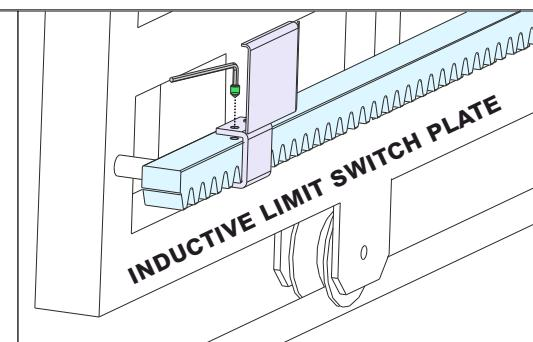
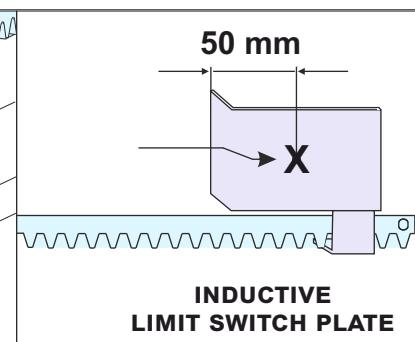

Fig. 14
Fig. 15
- **INDUCTIVE LIMIT SWITCH:** place the plate - Fig. 14 - on the rack according to the desired gate stop position; fix the plate on the rack using the screws. Bring the inductive limit switch **opening** plate (indicated by an arrow on the limit switch) in correspondence with point «X» of the plate on the rack (**50 mm from the folded side of the plate** - Fig. 15)
- **INDUCTIVE LIMIT SWITCH:** place the plate - Fig. 14 - on the rack according to the desired gate stop position; fix the plate on the rack using the screws. Bring the inductive limit switch **closing** plate (indicated by an arrow on the limit switch) in correspondence with point «X» of the plate on the rack (**50 mm from the folded side of the plate** - Fig. 15)